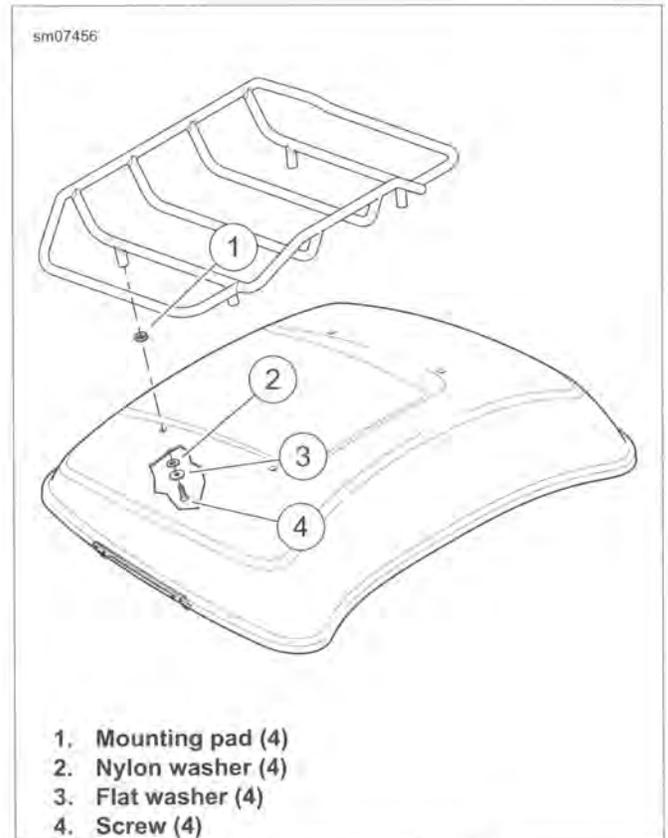

Figure 2-126. Luggage Rack
- See Figure 2-126. Hold the luggage rack while removing screws (4) and washers (2, 3).
- Hold the luggage rack in place with mounting pads (1) between luggage rack and lid.